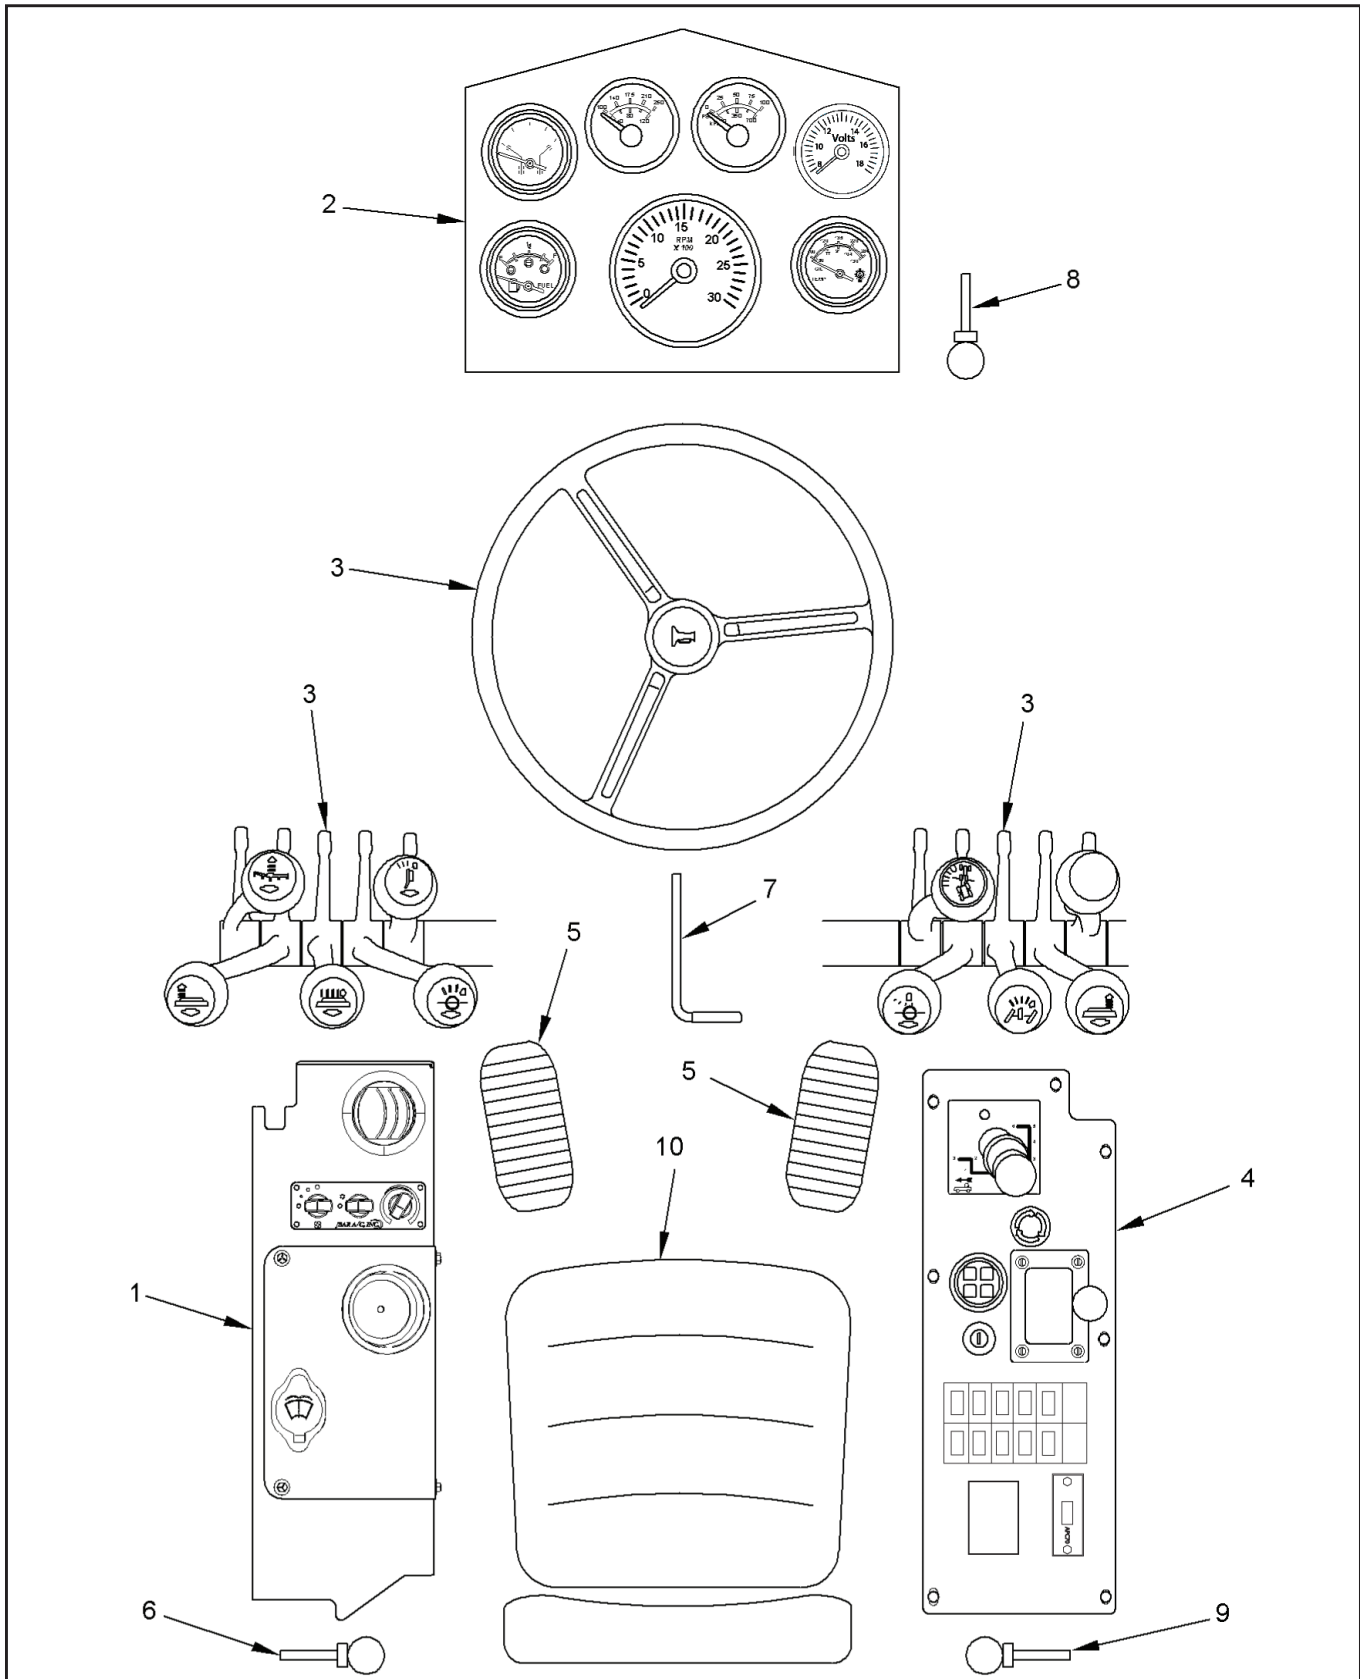

Figure 5-1. OPERATING CONTROL GROUPS
**Table 5-1. OPERATING CONTROL GROUPS (see Figure 5-1)**